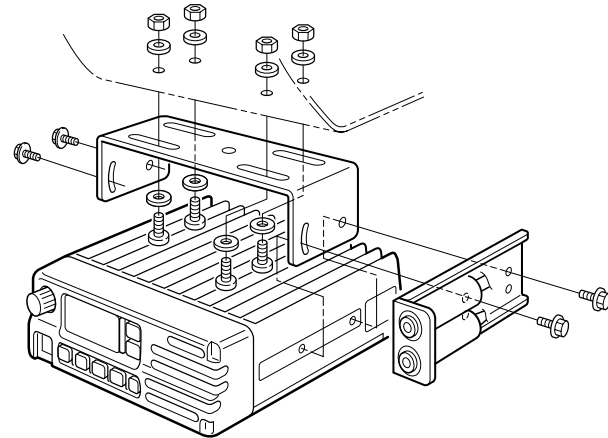

Fig. 3
- ③ Mount the phone plug attachment together with the mobile mounting bracket with 2 supplied screws. (Fig. 3)